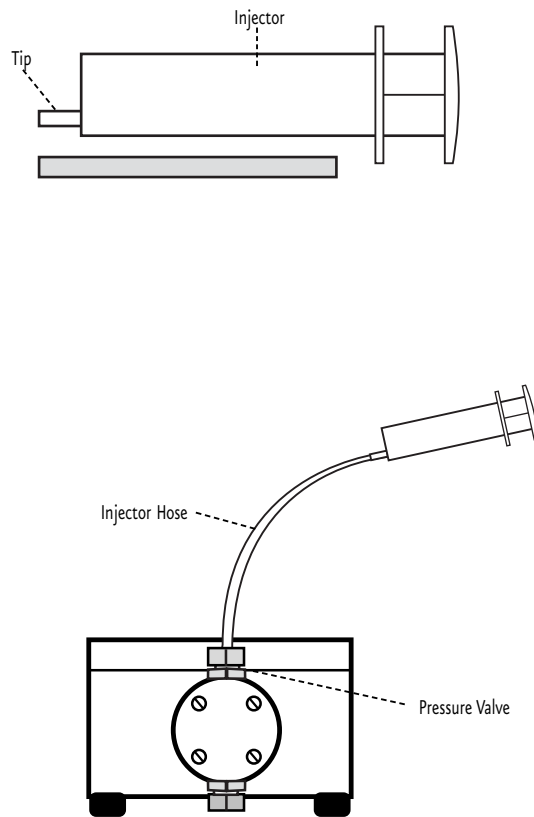

Figure 5
2. Insert the short injector hose onto the tip of the injector (see Fig. 5).
4. Insert the open end of the injection hose onto the pressure valve (see Fig. 5).